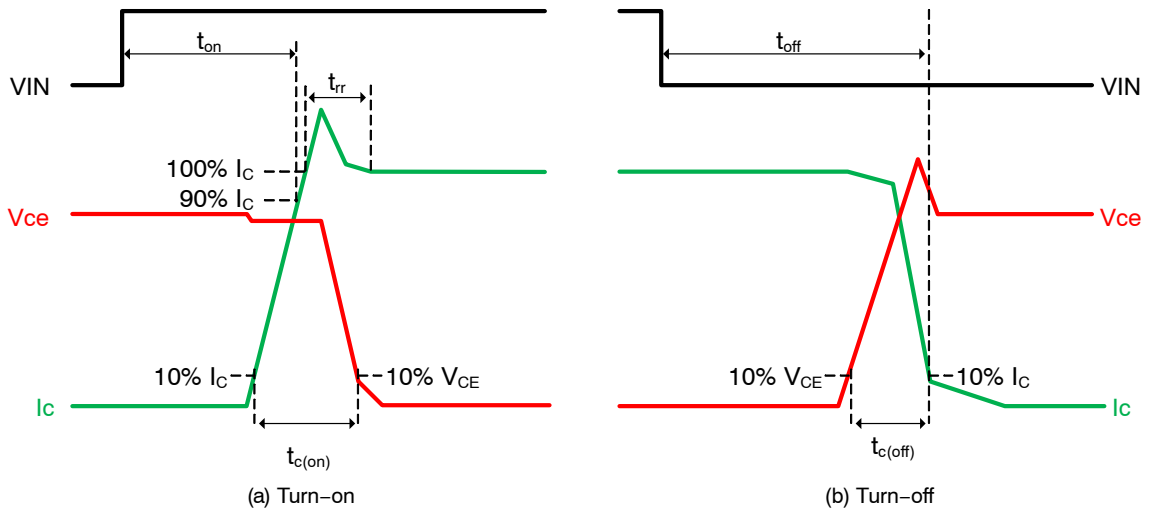
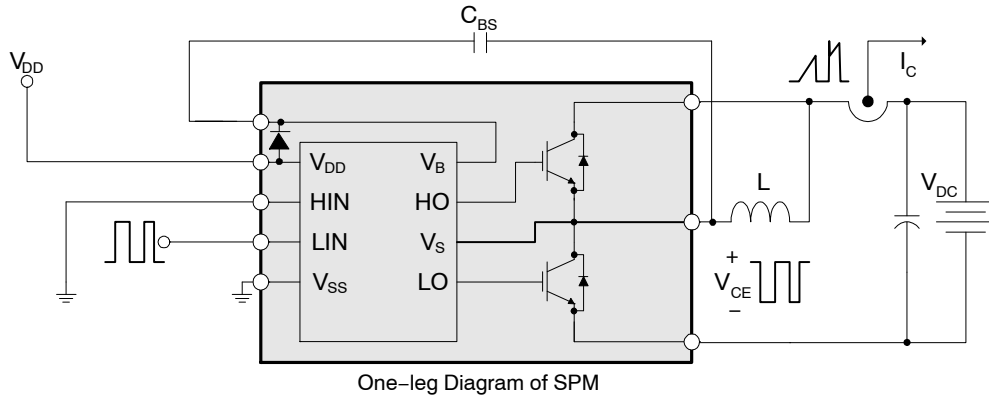

Figure 6. Switching Time Definitions
Figure 7. Switching and RBSOA (Single-pulse) Test Circuit (Low-side)
6. t_{ON} and t_{OFF} include the propagation delay time of the internal driver IC. Listed values are measured at the laboratory test condition, and they can be different according to the field applications due to the effect of different printed circuit boards and wirings. Please see Figure 6 for the switching time definition with the switching test circuit of Figure 7.
7. The peak current and voltage of each IGBT during the switching operation should be included in the Safe Operating Area (SOA). Please see Figure 7 for the RBSOA test circuit that is same as the switching test circuit.